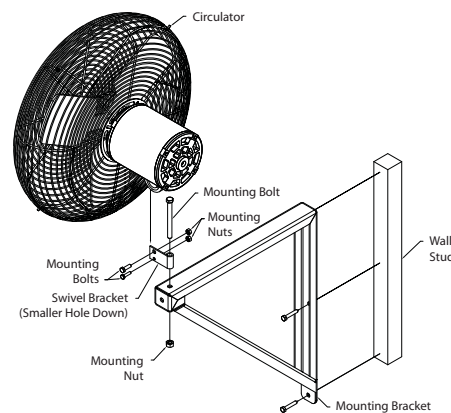
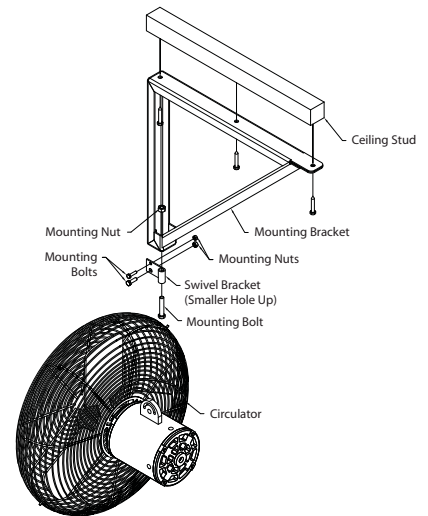

Figure 2 — Wall Mount Installation
Figure 3 — Ceiling Mount Installation
1. Assemble the bracket to the swivel brackets as shown in Figure 2 and Figure 3. The bracket has two holes; be sure smaller hole is as specified.